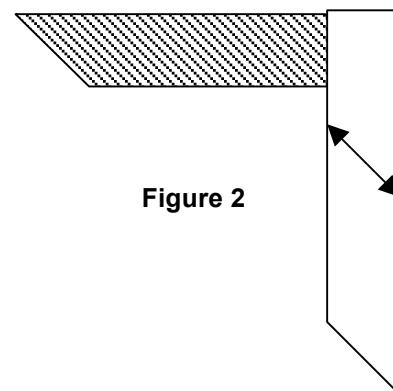

Figure 2
- Square off the ends of the bias strip at a 90 degree angle with the bias edge. Both cut edges will be on the bias. (Figure 2)